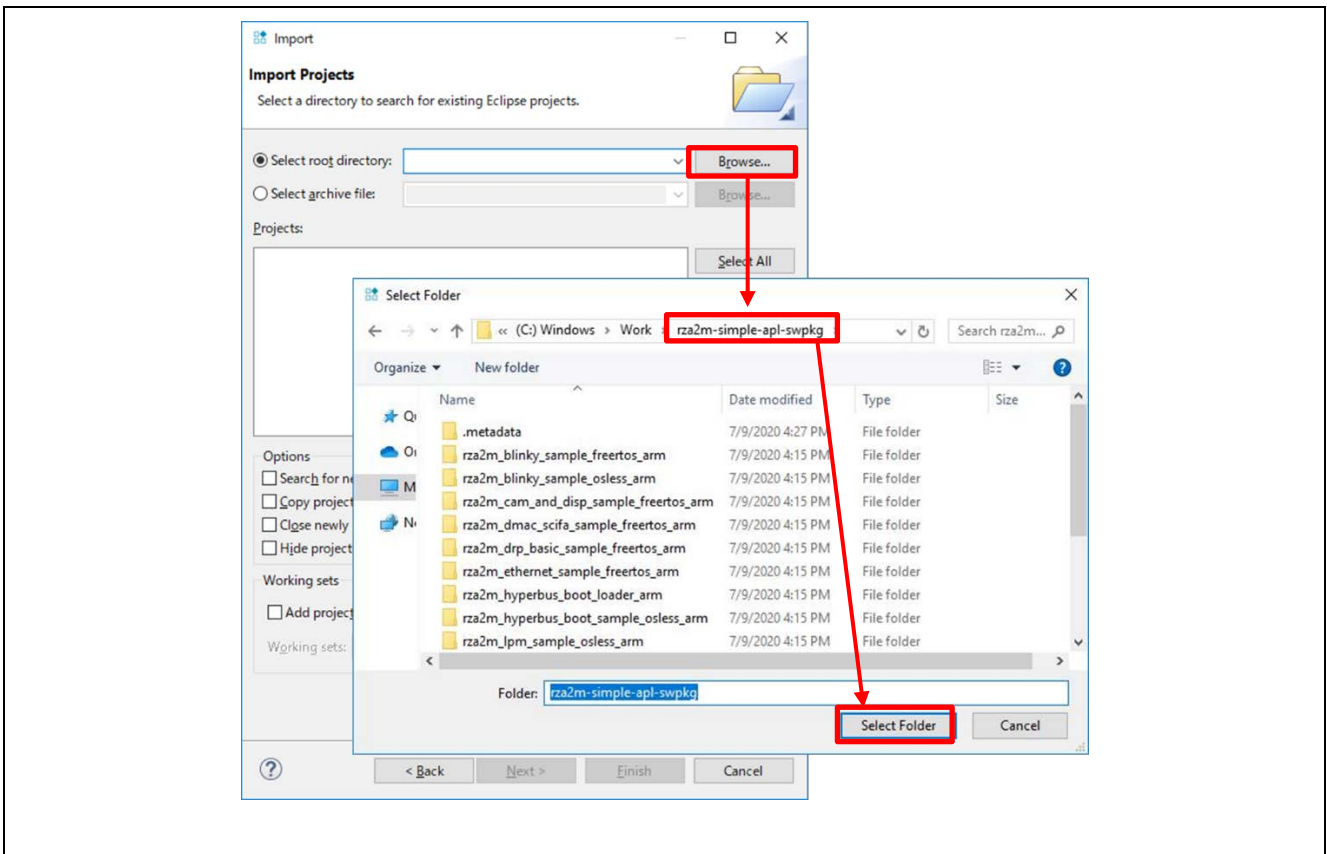

Figure 3-4 Select root directory
- Select the top directory which has each sample project sub-directory, and click "Select Folder". These 2 steps are shown in Figure 3-4.